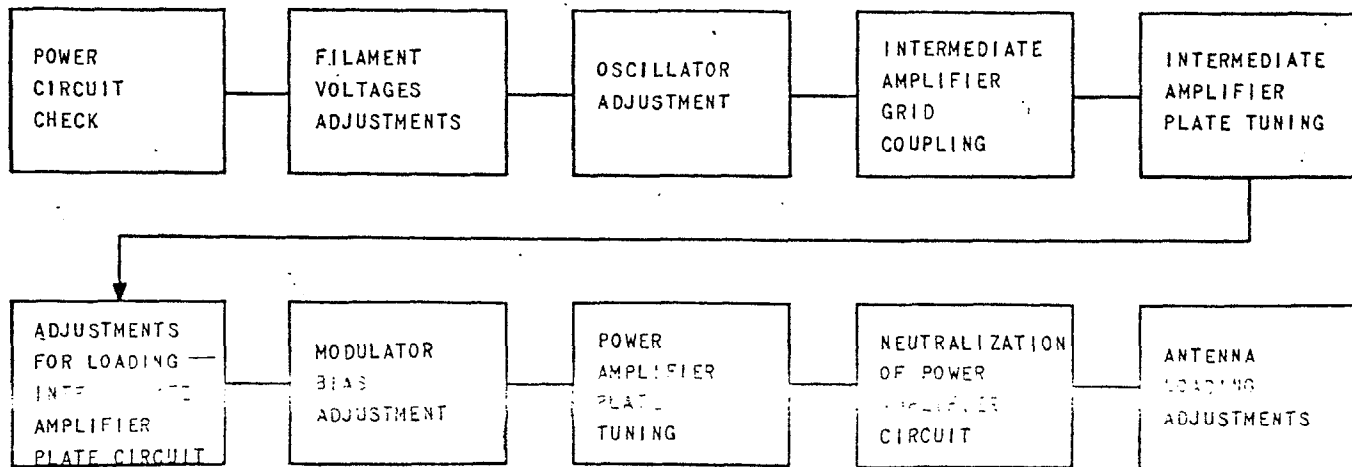

Figure 3-8. Block Diagram of Adjustments
(9) HIGH VOLTAGE SUPPLY CIRCUIT BREAKER.—Before high voltage can be applied to the modulators and power amplifier tubes, it will be necessary to close this circuit breaker.
(10) PLATE POWER START BUTTON.—After the high voltage circuit breaker has been closed, the relay, Item 2, may be operated by pressing the plate power start button. Operation of this relay applies plate voltage to the modulators and power amplifier tubes.
(11) PLATE POWER STOP BUTTON.—Operation of this switch de-energizes the relay, Item 2, and opens the high voltage circuit.
c. OUTLINE OF ADJUSTMENTS.—A brief outline of adjustment procedure is given in the block diagram (figure 3-8). The adjustment procedure is treated in a step-by-step manner in a later paragraph following this brief outline.
- (1) Power Circuit Check
- (2) Filament Circuit Adjustment
- (3) Oscillator Adjustments
- (4) Intermediate Amplifier Grid Adjustment
- (5) Intermediate Amplifier Plate Tuning
- (6) Power Amplifier Grid Adjustment
- (7) Modulator Bias Adjustment
- (8) Power Amplifier Plate Tuning
- (9) Neutralization
- (10) Antenna Loading Adjustments